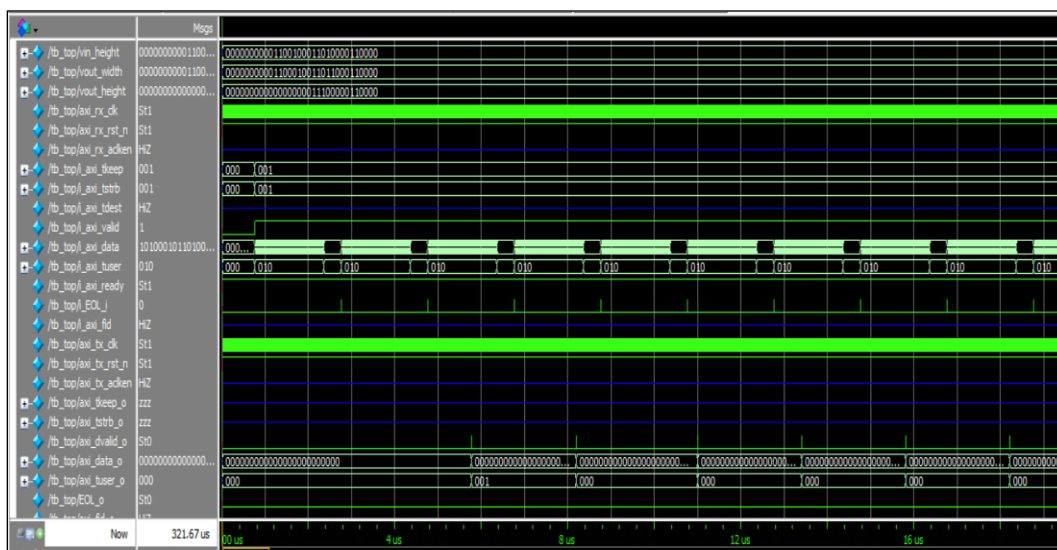

Figure 6.7. Sample Simulation Wave Form
5. Click **Finish** to run the simulation. The result of the simulation in the example is provided in Figure 6.7.